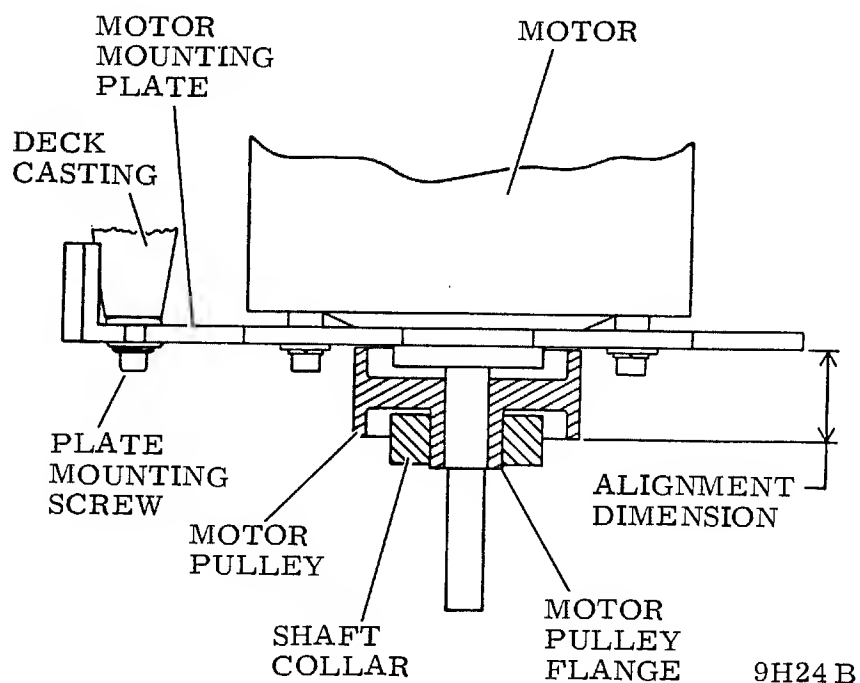

Figure 2-26. Drive Motor Pulley Adjustment
2. With motor mounted on motor mounting plate, position pulley on drive motor shaft so that alignment dimension shown in figure 2-26 is 20.7 ± 0.8 mm ($13/16 \pm 1/32$ in).